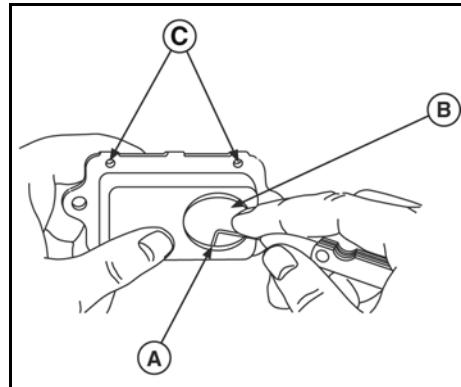

Figure 3
3. Inspect oil drain-back holes (C, Figure 3) to make sure they are open. Clean as needed.
4. Using 0.045" (1.14 mm) wire gauge, check clearance between the disc valve (B) and the housing (A). If gauge can be inserted, replace the breather assembly.